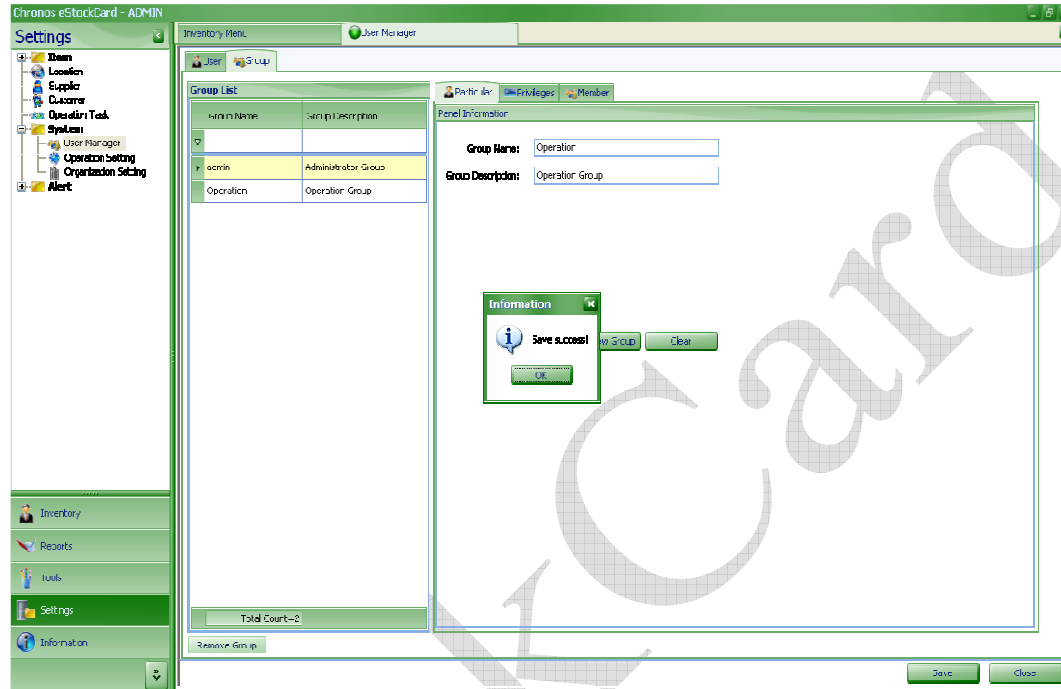

Fig. 9
- Step 4 Click “Add New Group” follow by “Save”, new group name will be added to the list. (Fig.9)